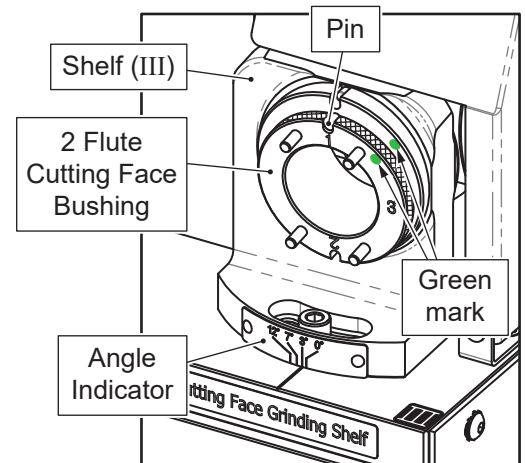

Fig. 10-2
2. Cutting Face Grinding Shelf (III) (Fig. 10-2)
- ① Adjust the Shelf (III) to 3° .
- ② Insert 2 Flute Cutting Face Bushing into the Shelf (III), align No.1 of the bushing to the pin on the shelf, then insert it to the end.